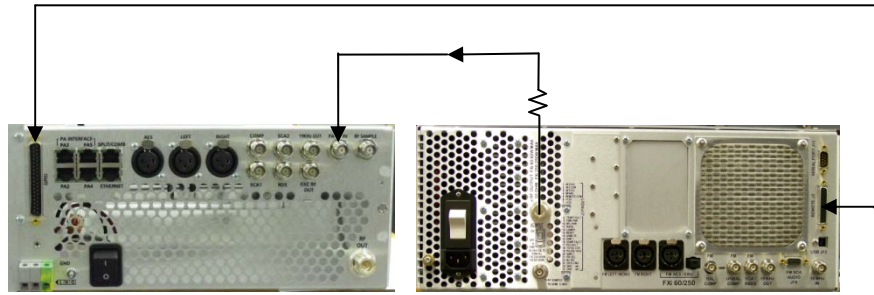

Figure 3
12. The other end connects to the External Exciter. FXi Exciters will connect to J3 on the rear of the FXi Exciter. The FX-50, FM-100C/FM-250C will require a different cable and connects to a terminal strip. See figures 3 through 6 for a block diagram.